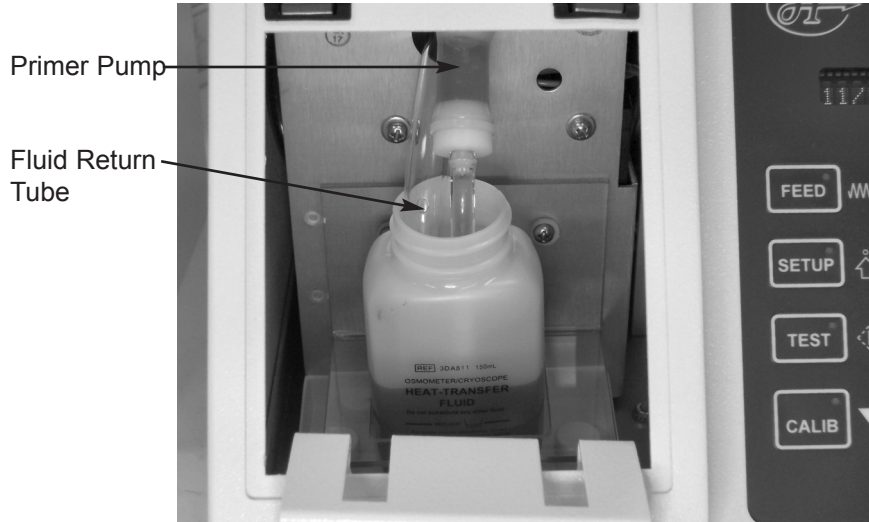

Figure 3: Prime the Heat Transfer Fluid Pump
5. Open the heat transfer fluid door to access the small primer pump (Figure 3). Squeeze the primer pump while the operating head is cycling, making sure to squeeze at the same time that the operating head reaches the bottom of its cycle. Observe the fluid return line from the cooling well back to the bottle. Once fluid begins to appear, continue priming for five more cycles to remove any trapped air. Stop using the primer pump and watch the return line to make sure that a small amount of fluid continues to flow through the return line with each head up/down cycle. Then press the **STOP** key to raise the operating head and exit to the test menu.